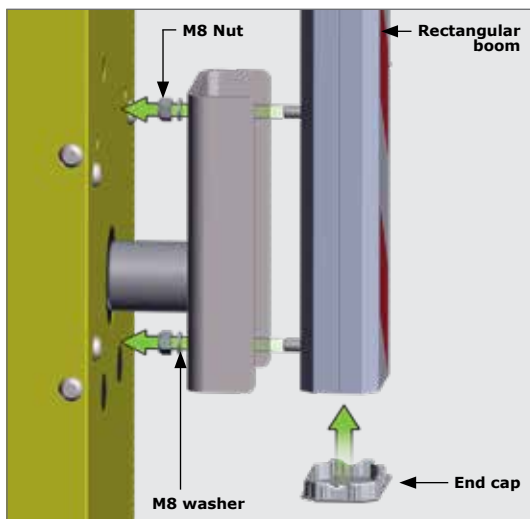

FIGURE 8
8. Fasten the rectangular boom pole as shown in Figure 8 and replace the end cap.